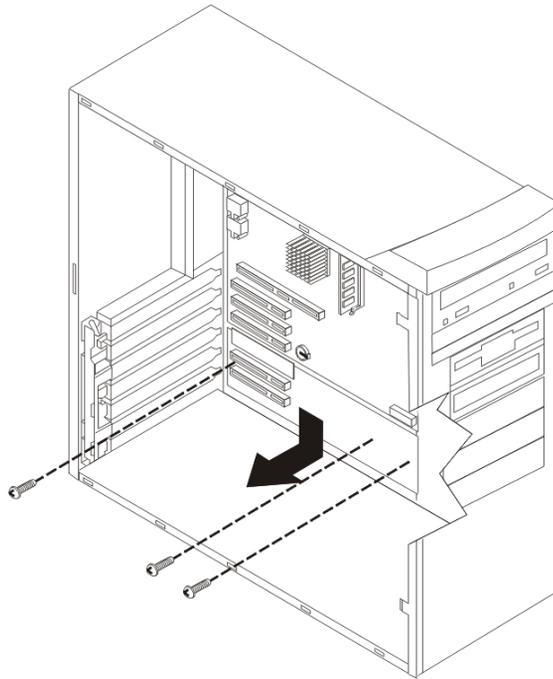

Figure 23: Removing the extender board
10. Tilt the extender board and remove it from the server (see Figure 23).